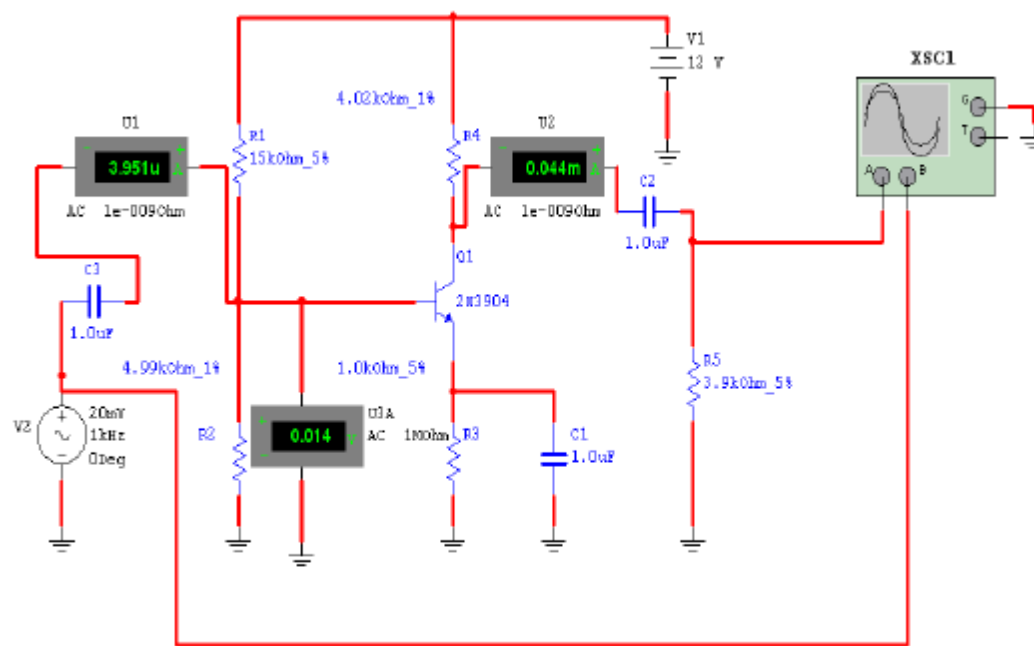

Fig.15 A CE Amplifier Connected to Determine Z_{in} and A_i .
- Connect an AC ammeter to measure I_{in} ; Fig.15.
- Connect an AC ammeter to measure I_{out} ; Fig.15.
- Connect an AC voltmeter to measure V_{in} ; Fig.15.